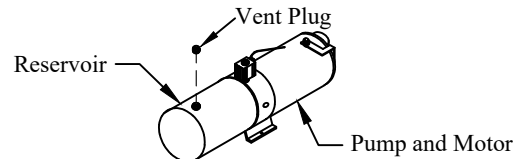

Figure 11: Vent plug.
7. **Install** the vent plug provided into the pump reservoir (Figure 11).